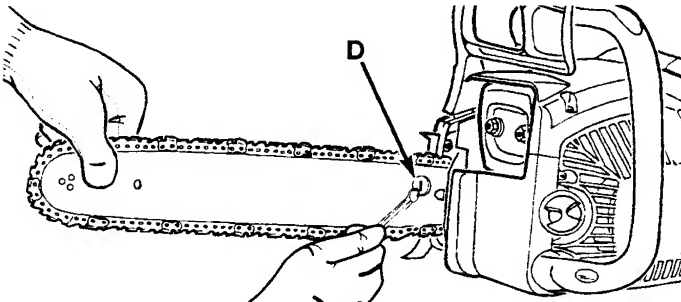

Fig. 22
1. Loosen bar nut, then hold nose of guide bar up and turn adjustment screw (D) **CLOCKWISE** to increase chain tension. Turning screw **COUNTERCLOCKWISE** will decrease amount of tension on chain. Ensure the chain fits snugly all the way around the guide bar (Fig. 22).